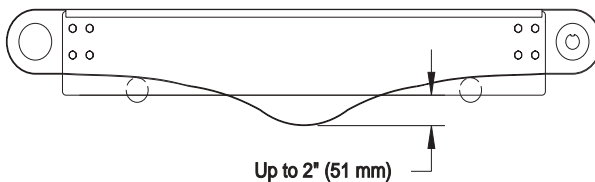

Figure 21
3. Check belt sag by measuring from the bottom of conveyor frame (Figure 21). Belt sag should not exceed 2" (51 mm).